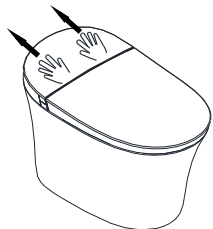

Figure 1
1. Power off, then remove the magnetic decorative panel on the top cover, as shown in Figures 1 and 2.
1. Turn off the power and water supply. Place your palm firmly on the decorative panel, push it backward about 5 mm, and remove it, as shown in Figure 1.